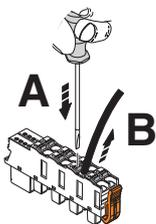

Fig. 7-9 Removing the cable
- To remove a cable from the terminal point, press on the spring lever with a suitable tool (e.g., bladed screwdriver with a blade width of 2.5 mm). This opens the leg spring connection of the relevant terminal point (Fig. 7-9, A).
- Remove the conductor (Fig. 7-9, B).